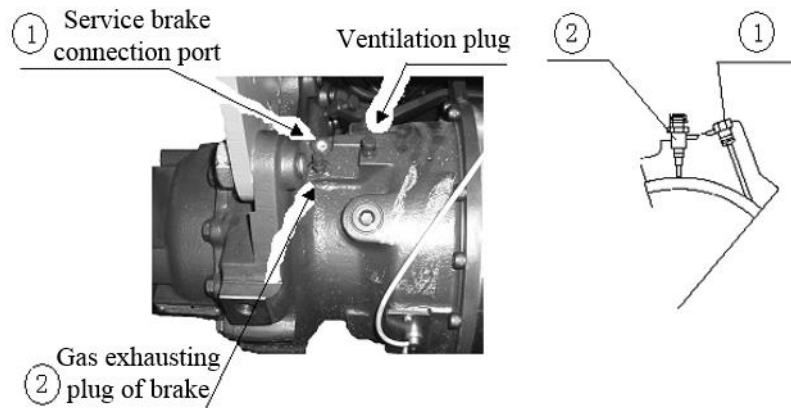

Figure 2-4
The brake hose from the brake valve to the driving axle is connected with the service brake connection port shown in Figure 2-4 ①. The pre-tightening torque is 12-16Nm. Note: The bending radius of the brake hose shall be as large as possible to reduce the recovery resistance when the pedal is loosened.
- 1) As shown in Figure 2-4, open the gas exhaust plug (part ②) of brake from the discharge valve to the appropriate position so that the hydraulic oil can just flow out.